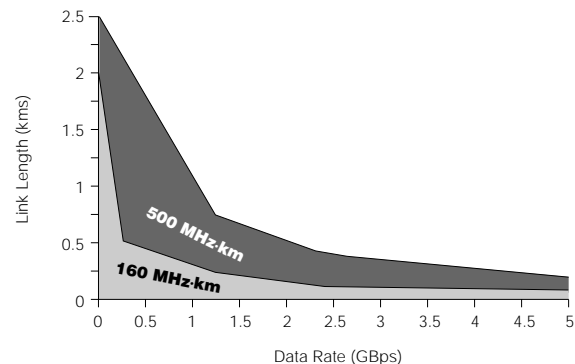

Figure 2: Bandwidth, Data Rate & Link Length
Since most protocols specify the transmitter and receiver rise times, we can simplify this relationship. A simplified model can determine link length from fiber bandwidth and protocol speed. This simplified relationship is shown in Figure 2.
*The second step* is to determine the fiber type that meets the required system bandwidth and standards requirements. Worst-case bandwidth is determined based on worst-case link lengths and protocol speeds. For example, if the worst-case protocol is Gigabit Ethernet (1000Base-SX or LX) at a 500 meter link length, then 50 μm fiber would be the best choice for an “SX” solution and 50 μm or 62.5 μm can be used for “LX” solutions. This result is based on the fact that the Gigabit Ethernet standard specifies both 50 μm and 62.5 μm for 500 meter “LX” applications and only 50 μm fiber for 500 meter “SX” applications. This finding is further confirmed by finding that gigabit speeds (in Figure 2) require a bandwidth of greater than 400 MHz•km. And since both fibers have 500 MHz•km in the “LX” operating window, either can be used. 50 μm has 500 MHz•km in the “SX” window which also allows it to be used with 850 nm sources.